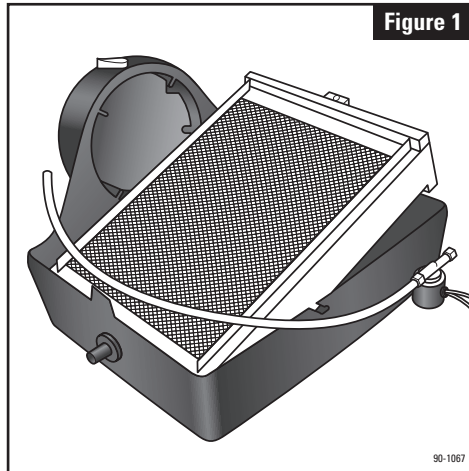
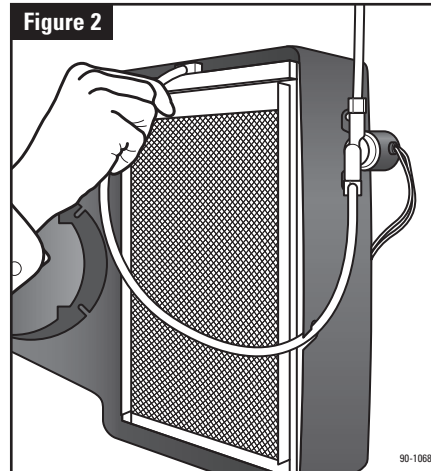

Figure 1
Figure 2
**1.** Press top & bottom tabs to remove cover (1). Pull feed tube (3) out of distribution tray (4). Remove Water Panel® Evaporator assembly. See **Figure 1**.
**2.** Humidifier is supplied with bypass duct connection on left. For right side bypass, swap location of drain spud (9) and cap (10). Twist to remove spud and cap.
**4.** Place humidifier base (2) in opening and secure with 6 screws in openings provided.
**6.** Insert Water Panel Evaporator assembly into base. Make sure bottom of scale control insert (6) is in drain spud. Snap top of evaporator assembly into base. Insert feed tube into distribution tray. See **Figure 2**. Rotate nameplate (11) if necessary, so it is right side up. Place point bypass damper handle (8) to "WINTER" (open) for heating season and "SUMMER" for cooling season.